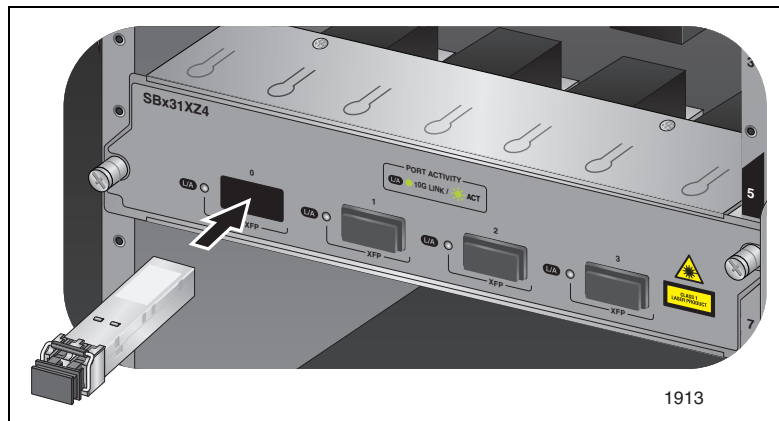

Figure 53. Installing an XFP Transceiver
4. Slide the transceiver into the slot until it clicks into place, as shown in Figure 53.